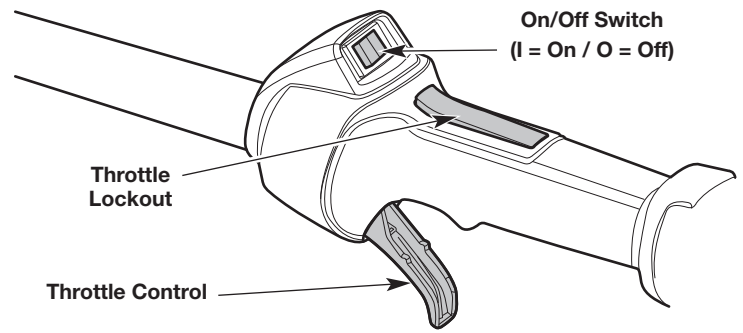

Fig. 10
NOTE: There is no need to turn the unit on. The On/Off switch is in the **On (I)** position at all times (Fig. 10).
NOTE: DO NOT squeeze the throttle control (Fig. 10) until step 6.
6. Press and hold the throttle lockout (Fig. 10). Squeeze the throttle control as needed for operation (Fig. 10).
2. Press and hold the On/Off switch in the **Off (O)** position until the engine comes to a complete stop (Fig. 10).